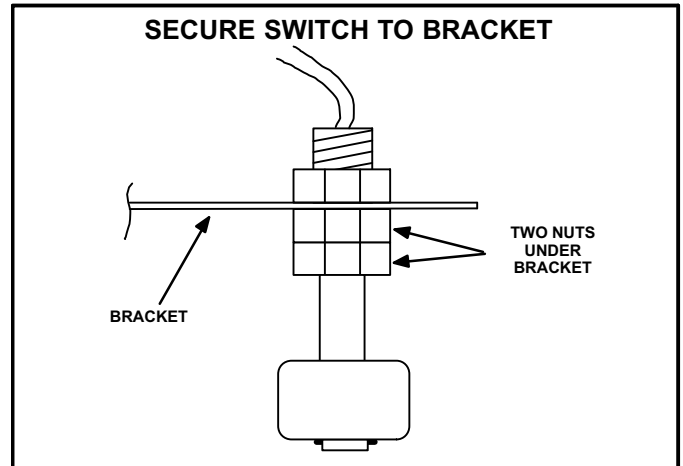
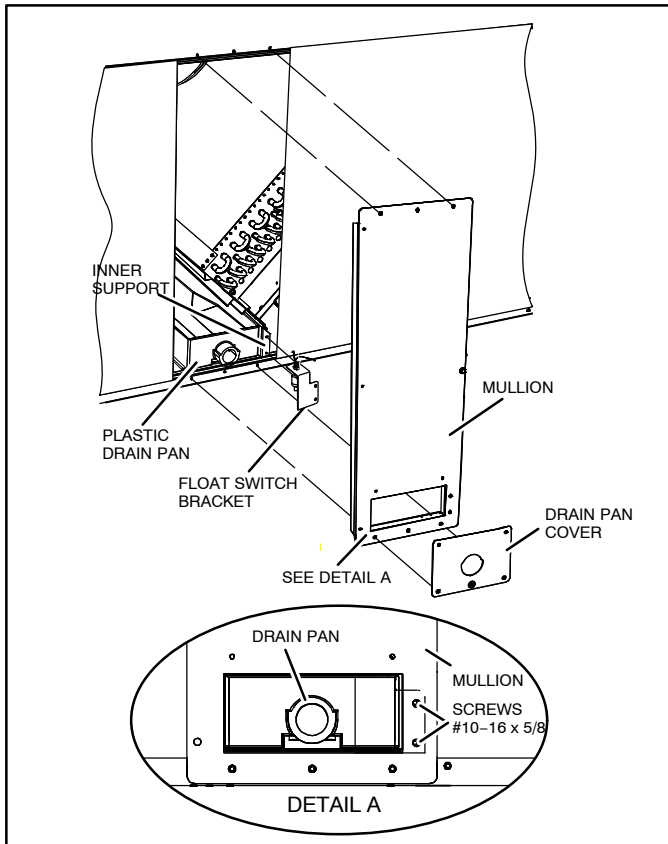

Figure 1. Float Switch Configuration
Figure 3. Accessing Location
- Secure float switch assembly to L-shaped bracket using the two nuts as illustrated in figure 1 and 2. Two brackets are included. Use only the bracket with the hole pattern that allows installation as illustrated in figure 3.
- Remove drain pan cover panel by the condensate drain connection as illustrated in figure 3.
- Remove the two screws adjacent to the drain pan that fasten the mullion to the inner support as illustrated in figure 3, detail A.
Before proceeding it must be determined whether there is a 24VAC terminal on the TB1 terminal board (see figure 3 for location if present). There are two electrical installation sections, one for units with a TB1 24VAC terminal and one without.